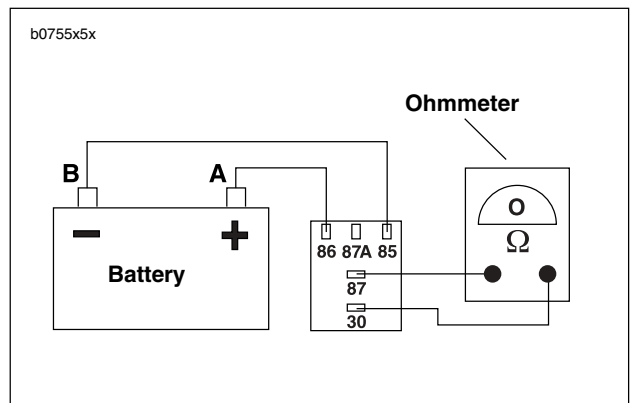

Figure 5-7. Starter Relay Test
4. See Figure 5-7. Obtain a 12 volt battery and a continuity tester or ohmmeter.